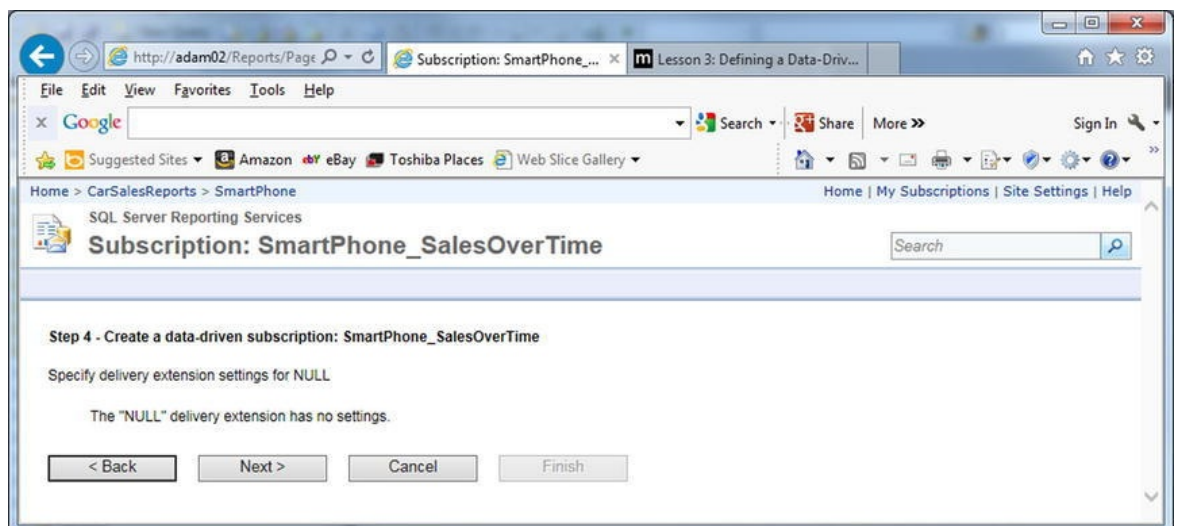

Figure 12-19. Applying the NULL destination for a data-driven subscription
10. The NULL destination for a data-driven subscription window will be displayed. The browser window will look like Figure 12-19.